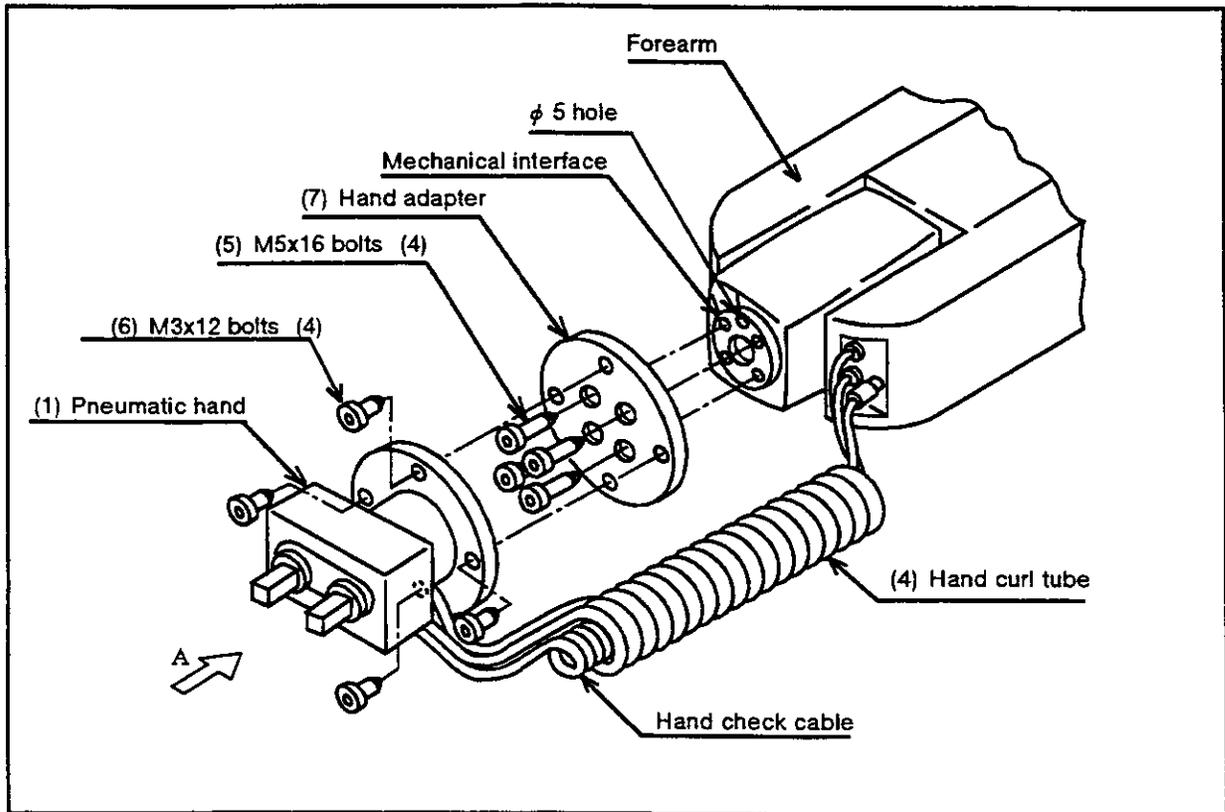

Fig. 1.2 How to install the pneumatic hand
Fig. 1.2 shows the method for installing the pneumatic hand. The installation steps are as follows :
- (3) As shown in Fig. 1.2, connect the hand curl tubes to coupling 1 and coupling 2, which protrudes from the cover of the forearm. The opposite end of the tube connected to coupling 1 should be attached to the hand's OPEN coupling, and the opposite end of the tube connected to coupling 2 should be attached to the hand's CLOSED coupling.
- (4) As shown in Fig. 1.2, connect the hand check cable, which is attached to the main unit of the hand, to the connector CON1, which protrudes from the cover of the forearm. This completes the installation of the hand.